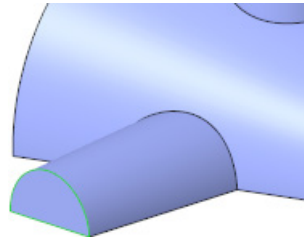

Figure 15-112 Surface after creating the fill surface
8. Exit the Sketcher environment and then exit the **Fill** dashboard by choosing the **OK** button; the fill surface is created, as shown in Figure 15-112.